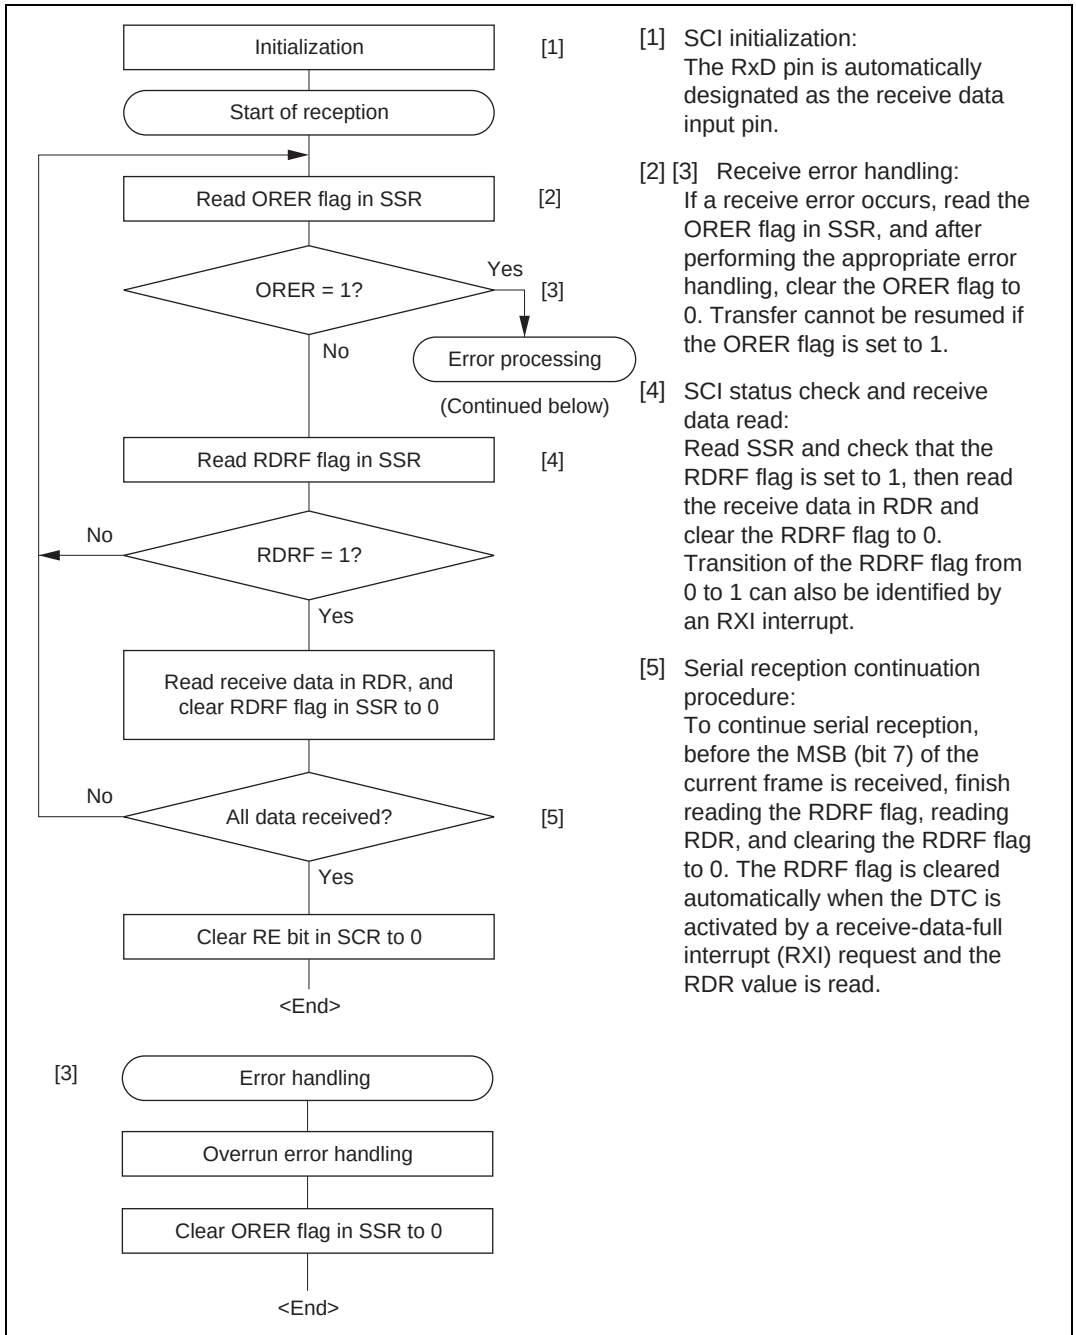

Figure 12.18 Sample Serial Reception Flowchart
**Serial data reception (synchronous mode):** Figure 12.18 shows a sample flowchart for serial reception.